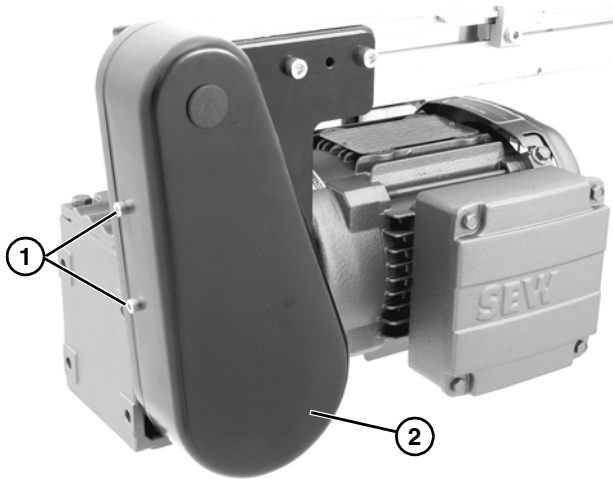

Figure 20
1. Remove four (4) screws (**Figure 20, item 1**) and remove cover (**Figure 20, item 2**).
6. Install cover (**Figure 20, item 2**) with four (4) screws (**Figure 20, item 1**). Tighten to 35 in-lb (4 N-m).